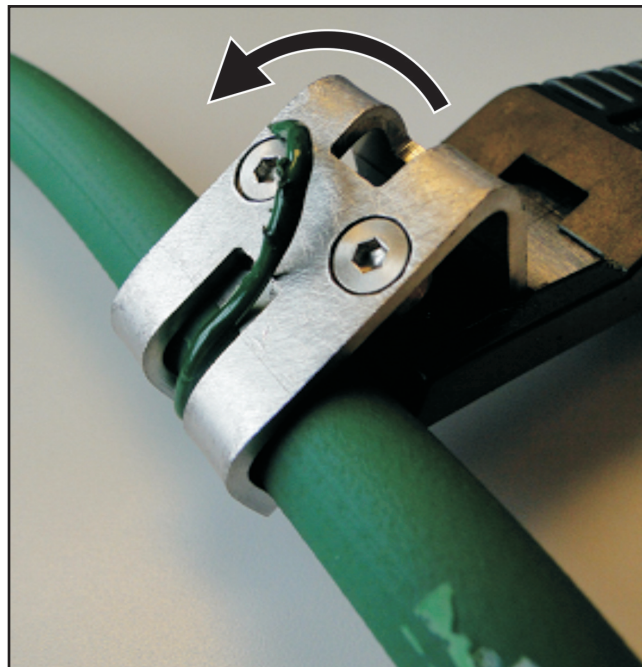

Figure 5
5. Test the tool by rotating it around a welded area of a belt. Readjust the blade if necessary to make a smooth cut of the excess belt material. Refer to Figure 5.